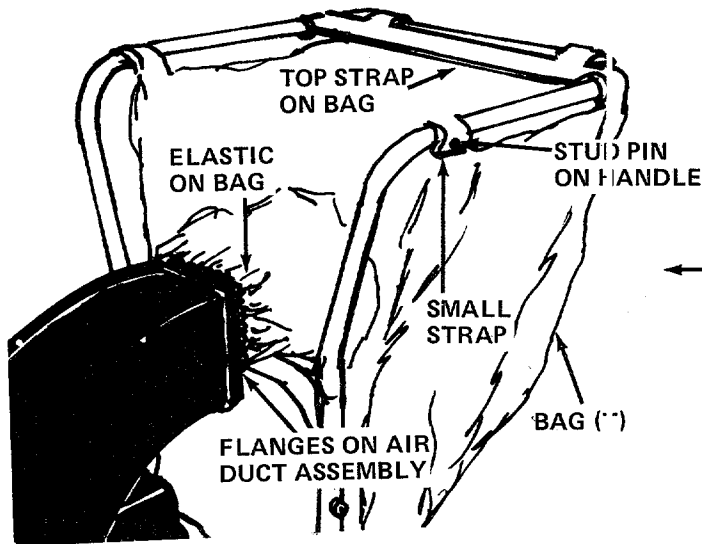

FIGURE 8
- Assemble the bag by slipping the top straps on bag (T) over upper handle. Hook two small straps over stud pins on handle. Slip elastic opening of bag over air duct assembly. See figure 8.